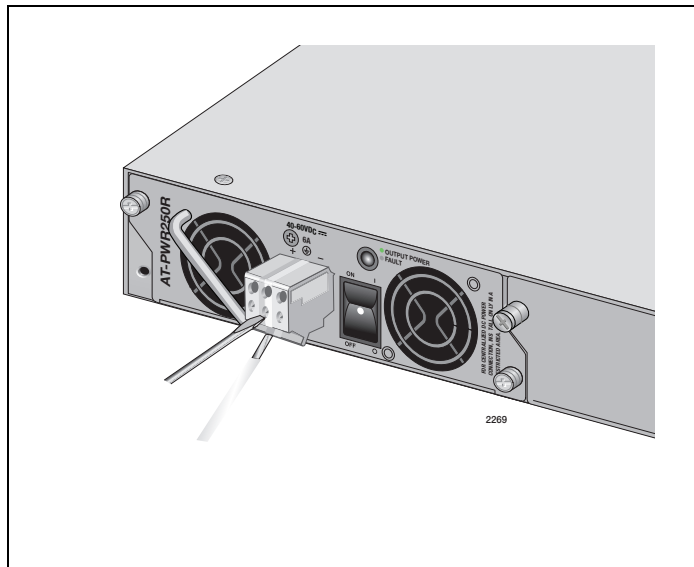

Figure 34. Inserting Wires into a DC Terminal Block
5. Insert the power supply ground wire into the middle connector of the DC terminal and tighten the connection with a flathead screwdriver, as shown in Figure 34 on page 71.